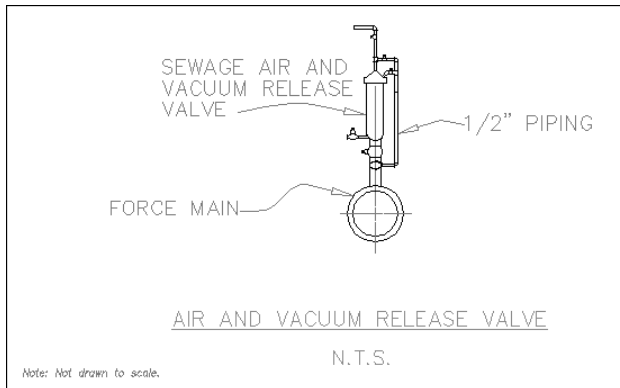

Figure 13-16: You have added text by using a new text style.
6. Save your drawing. It should look like Figure 13-16. If you are going on to the next exercise, keep this drawing open.